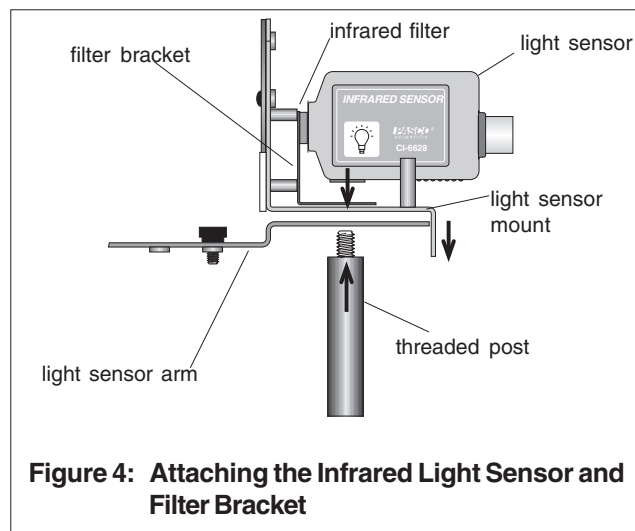

Figure 4: Attaching the Infrared Light Sensor and Filter Bracket
- c) Place the Infrared Light Sensor over the base of the bracket. While holding the sensor in place with one hand, use the other hand to insert the threaded post from beneath the sensor. Rotate the post until the sensor holds firmly in place against the bracket and mount. The glass filter should fit snugly against the sensor, with the bracket under the case (Figure 4).